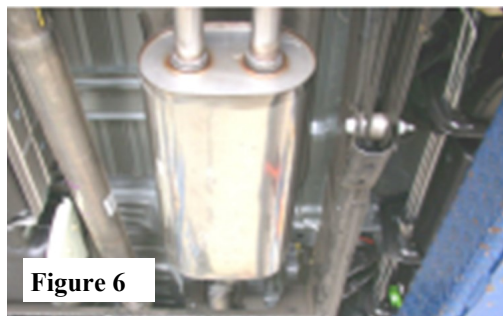

Figure 6
3. Place a clamp over the expanded ends of the tail pipe assembly and set it into position making sure to install the hangers into the rubber isolators. (See Fig. 6) Do Not tighten the clamps.